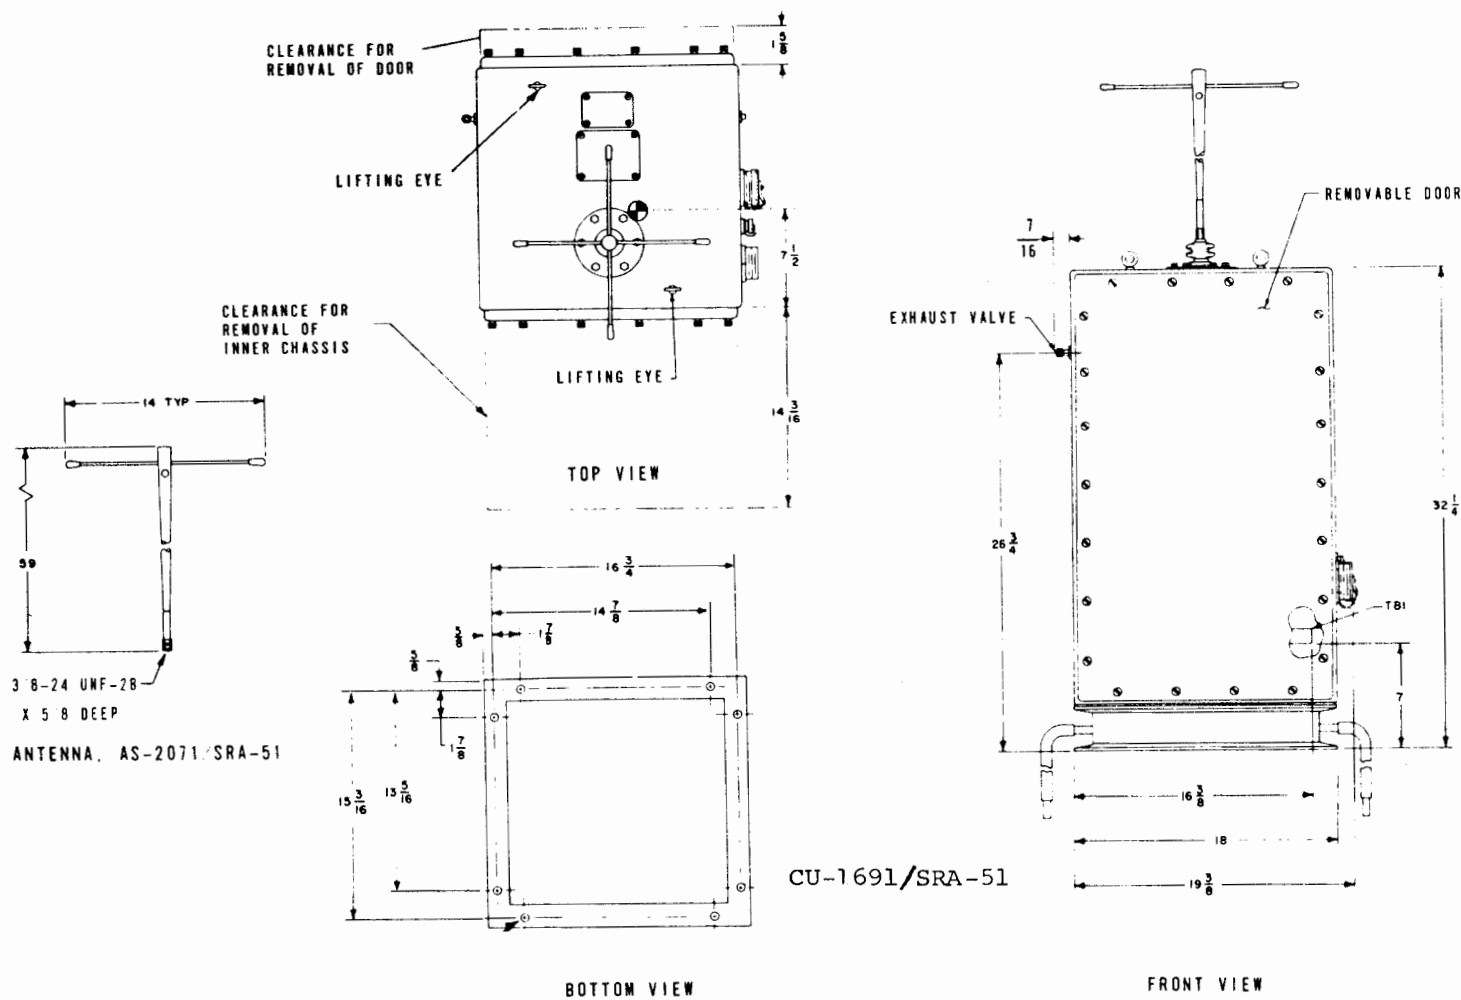

Figure 6-7 Antenna Group AN/SRA-51 Physical Configuration
b. PHYSICAL CONFIGURATION. - See Figure 6-7 and 6-8.